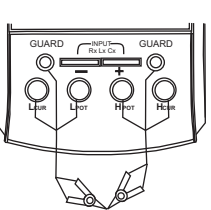

Figure 7
- b) When using $L_{CUR}/L_{POT}/H_{POT}/H_{CUR}$ terminals insert the black and red testing lines with alligator clip into the " L_{CUR} ", " L_{POT} ", terminal and " H_{CUR} ", " H_{POT} ". terminal respectively. Connect the mouth of clips (shown in figure 7).